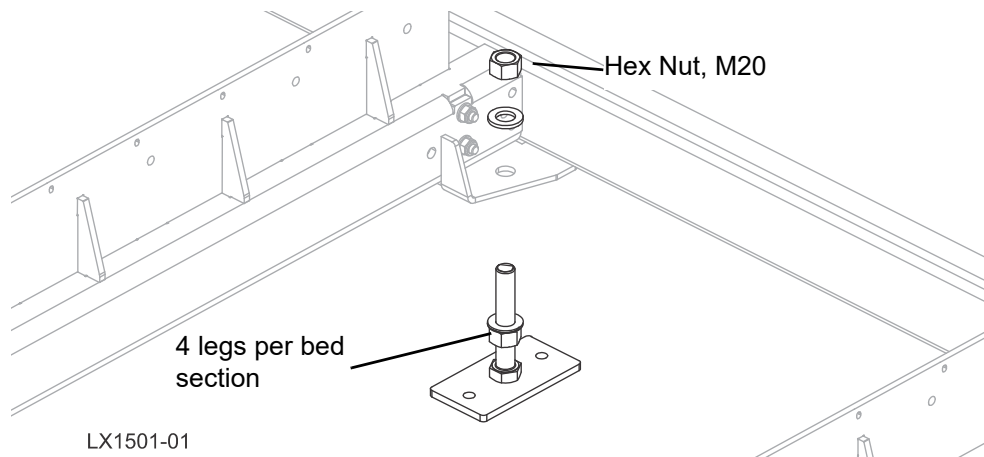

FIG. 3-5
2. Apply the bed legs to the sections as shown in Figure 3-5.
See Figure 3-5.